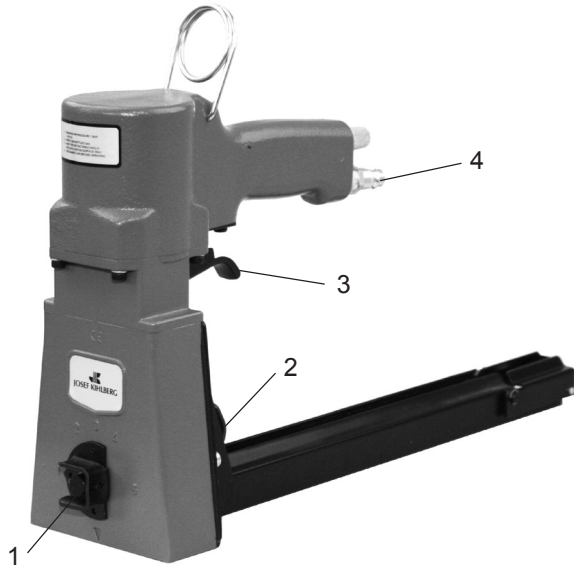

Fig. 1
1. Press the top stapler against the carton and pull the trigger (Fig.1/4).